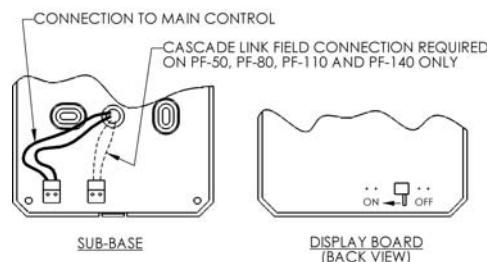

Figure 8.6: Cascade Link Connection & Switch Setting
1. To cascade PF-50 and PF-80 models, check that the display sub base has the cascade link as illustrated in Figure 8.6 Cascade Link connection & Switch Setting.
- Remove the User Interface Display from the boiler by pressing the tab on bottom edge and rotating it outward and upward as shown in Figure 8.6.
- Slide the Master Switch Lever toward the center of the printed circuit board. The Master Switch Lever is not marked with “ON” or “OFF” but the switch is in the “ON” position when it is moved to the left as viewed from the back of the display. This position is shown in Figure 8.6.
- When a call for Central Heat (CH) or Domestic Hot Water (DHW) is present, the Master boiler chooses which boiler will lead based on the Cascade Rotation Interval.
To cascade PF-50 and PF-80 models, check that the display sub-base has the cascade link as illustrated in Figure 8.6.